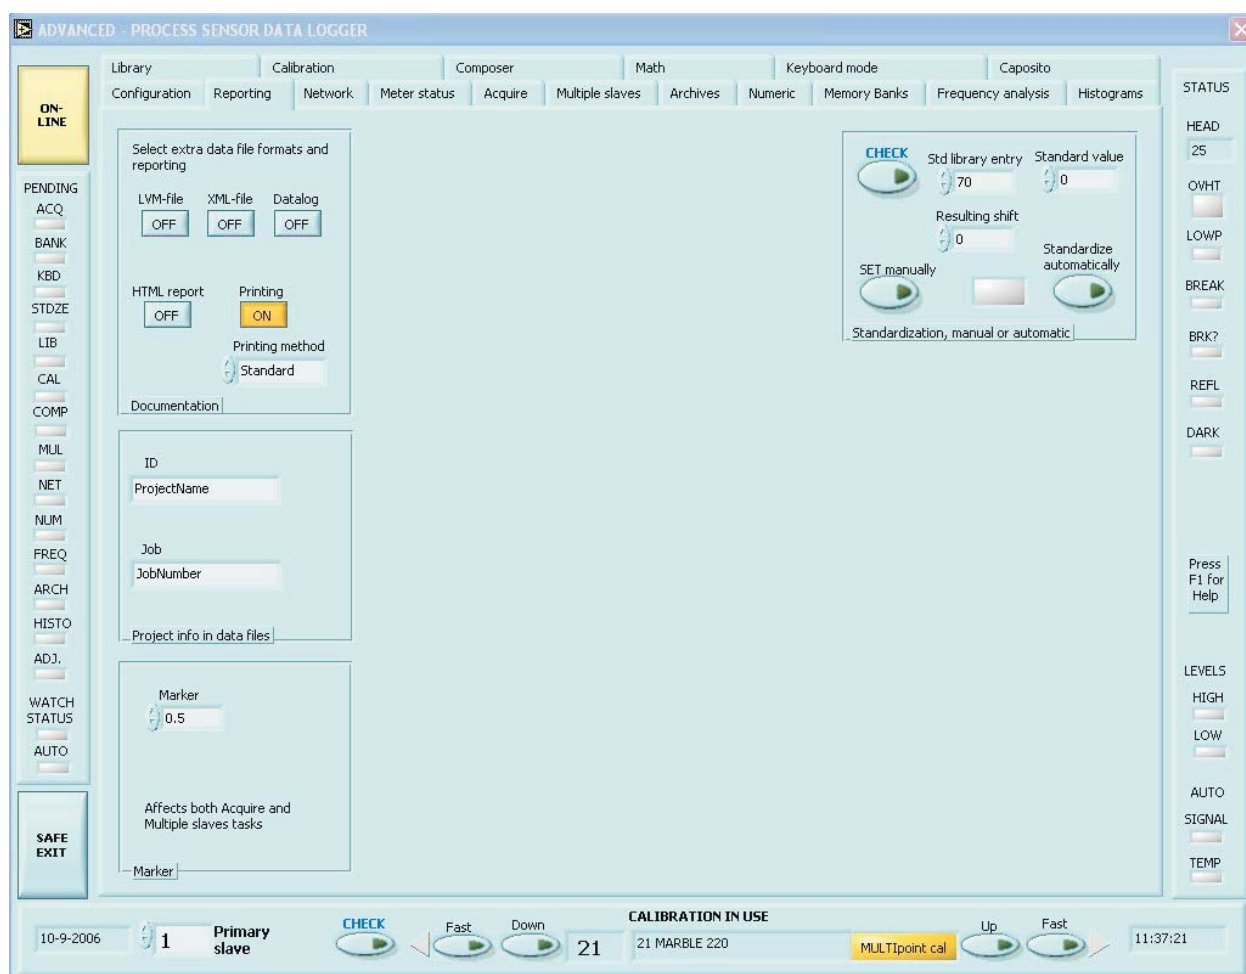

Figure 1. The standardization task on the Reporting page in the Advanced program
3. The Standardization is on its own page in the programs or with other tasks, refer to Figure 1. Press the button **Check** to retrieve the current parameters. The table number should be 70 unless you have changed it for a good reason. The standard value is shown too if this has been done before. The cumulative difference (Resulting shift) or correction value is shown too.
3. The Standardization is on its own page in the programs or with other tasks, refer to Figure 1. Press the button **Check** to retrieve the current parameters. The table number should be 70 unless you have changed it for a good reason. The standard value is shown too if this has been done before. The cumulative difference (Resulting shift) or correction value is shown too. This value should be zero at this time. If not, edit it and press the button **SET manually**. Select the table number **70 factory calibration**.